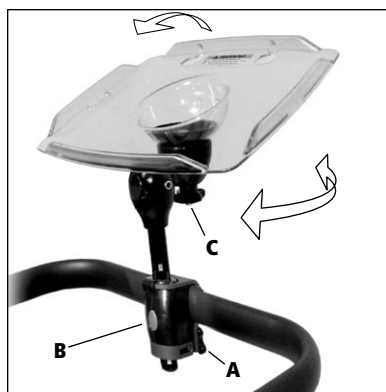

Figure 28
1. For maximum stability install the tray centered on the front of the top bar as in Figure 28.
See Figure 28 and 29